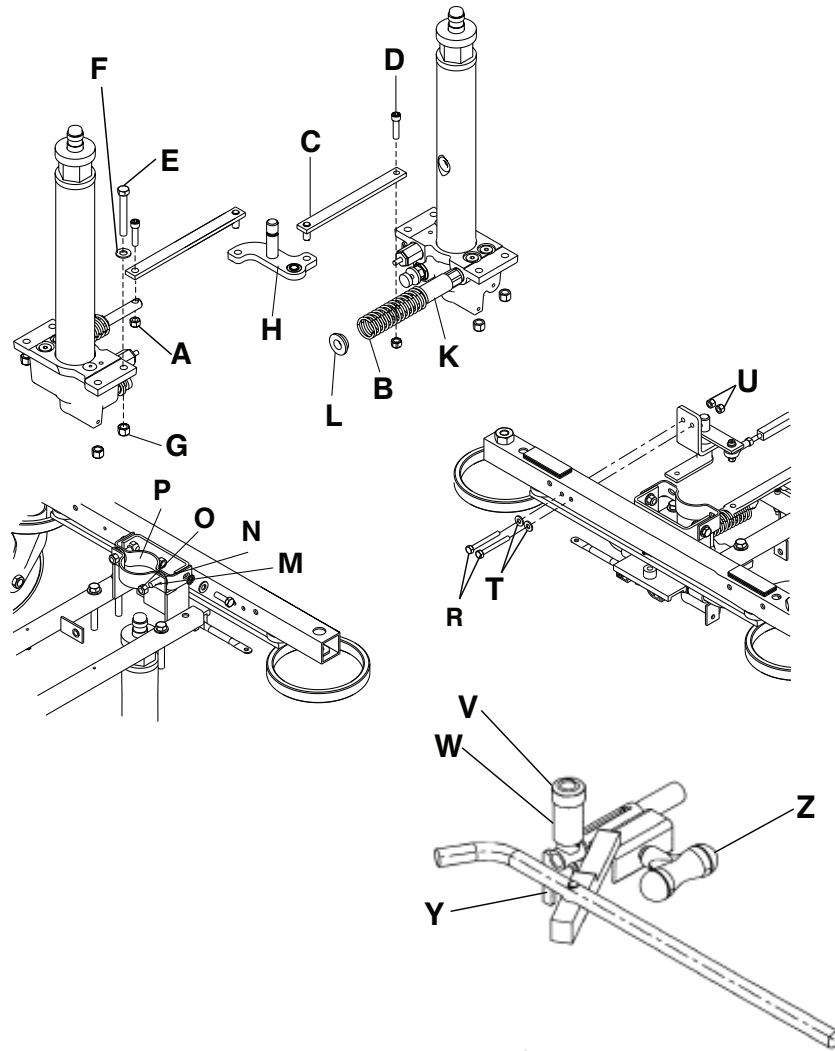

Figure 5 – Jack replacement
4. Using a 3/8" hex wrench and a 1/2" combination wrench, remove the locking nut (A) from under the pump piston (Figure 5). Save the locking nut.
5. Compress the jack spring (B). Using a slotted screwdriver, pry the pump link weldment (C) and socket head cap screw (D) out of the pump cylinder. Save all parts.